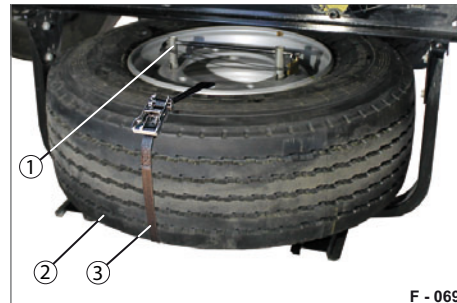

Fig. 78 Defective wheel secured
- ▶ Mount the spare wheel catches (Fig. 78/1).
- ▶ Fasten the defective wheel to the holder (Fig. 78/2) through the rim frame with a tensioning strap (Fig. 78/3).
- ▶ Pull the tensioning strap (Fig. 78/3) tight.